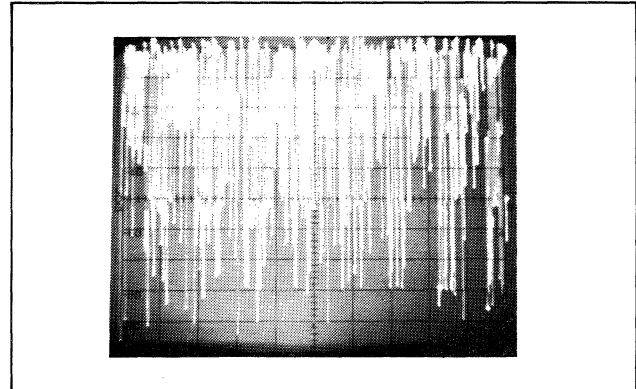

Figure 3-34. Typical Turn On Display.
e. Set the POWER switch to the ON (AC) position. The POWER light will illuminate.
f. Allow approximately 15 seconds for the CRT to warm up. Adjust the INTENSITY and FOCUS controls for a bright, clear presentation on the CRT. When the instrument is initially turned on, the display may be similar to the one shown in Figure 3-34. This display reflects the preferred states of the storage elements in the digital memory and is not meaningful. To clear the display, press the CLEAR WRITE button.
- c. Allow approximately 15 seconds for the CRT to warm up. Adjust the INTENSITY and FOCUS controls for a bright, clear presentation on the CRT. When the instrument is initially turned on, the display may be similar to the one shown in Figure 3-34. This display reflects the preferred states of the storage elements in the digital memory and is not meaningful. To clear the display, press the CLEAR WRITE button.